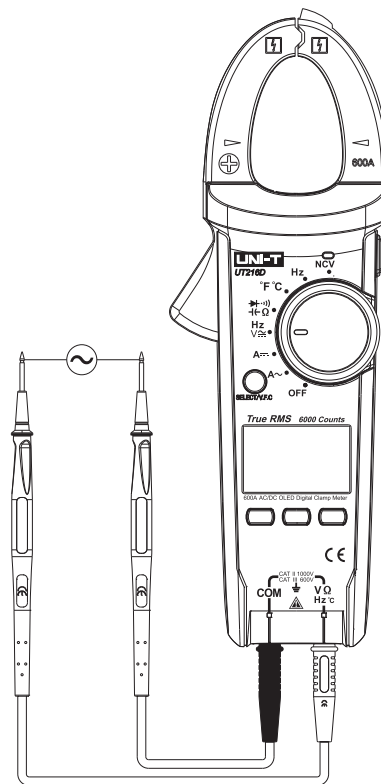

Fig. 4
3.Measurement of AC voltage (shown as Fig. 4)